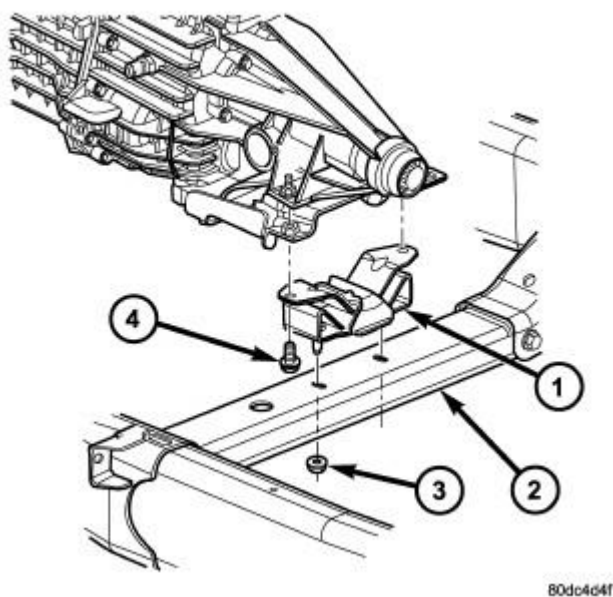

Fig. 147: Transmission Mount, Crossmember & Fasteners
3. Remove the nuts from the transmission mount (1).
5. Raise the transmission enough to remove the mount from the crossmember (2). Refer to **Fig. 147**.
6. Remove the mount (1).